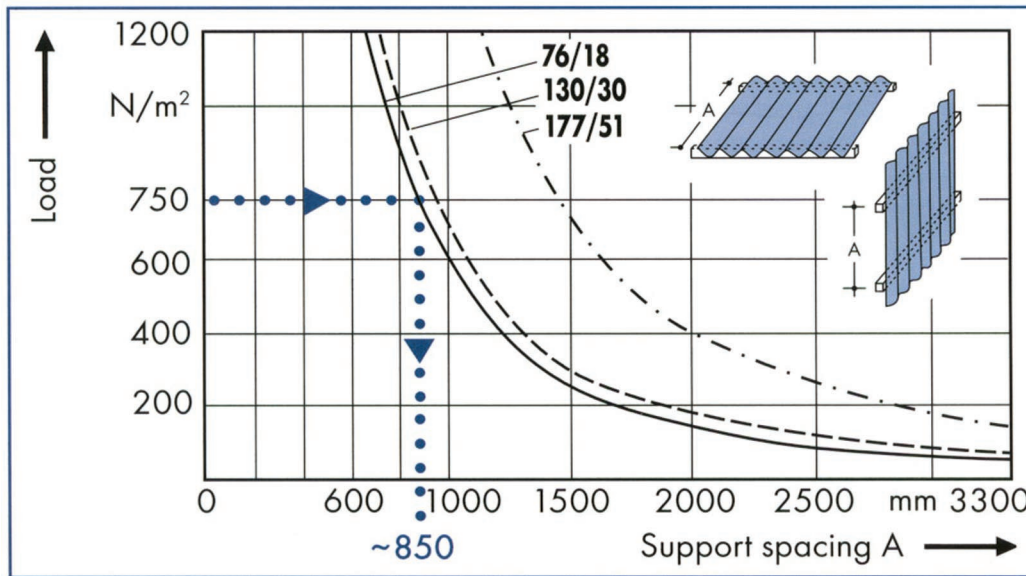

Fig. 3: Recommended Support Spacing for DEGLAS Corrugated Sheets.
DEGLAS WP corrugated sheets are installed on structurally sound support members that are positioned at right angles to the direction of slope or water flow. These purlins or cross members are spaced (A) as per the chart (Fig. 3) below to correspond to the design snow and/or wind load pressures.